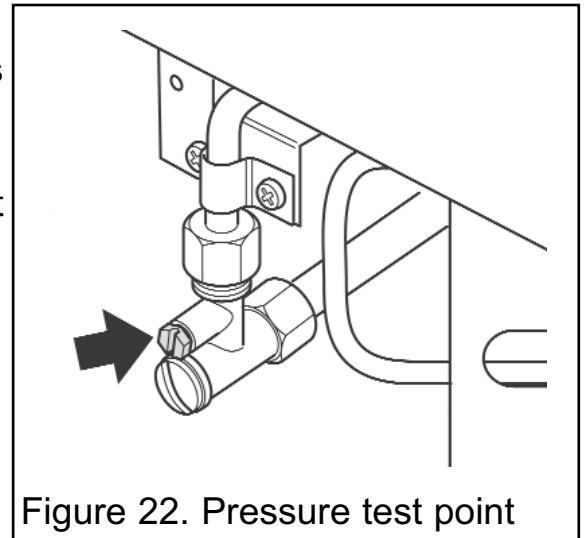

Figure 22. Pressure test point
1. Check the inlet pressure by fitting a pressure gauge at the test point. The test point is on the inlet elbow (See figure 22). Check the pressure with the appliance alight and set at maximum output.